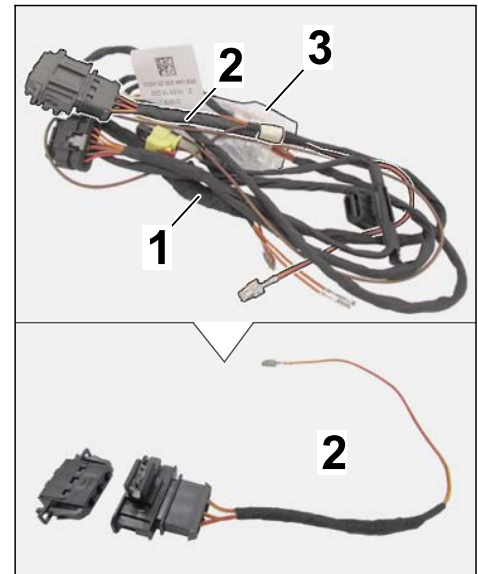
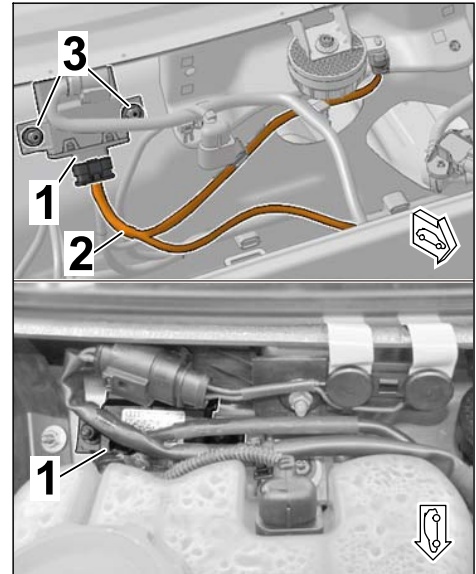

Figure 18
Figure 19
2.1 Release secured adapter cable with plug connection (3-pin) and bag of small parts from electric wire harness for engine noise control unit/pulse sender (⇒ *Figure 18*).
- 3 (2) – Bag of small parts
2.2 Fit engine noise control unit (⇒ *Figure 19*)
2.2.2 Position engine noise control unit on M6 studs (2 x) in the plenum panel and secure with two M6 hexagon nuts ( $\Rightarrow$  Figure 19).
- 3 (2) – Hexagon nut, M6